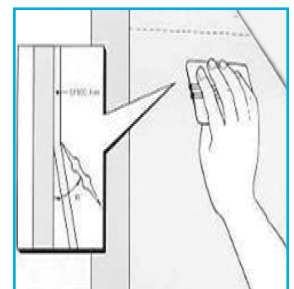

Figure 3.
7. Continue in this manner to apply the rest of the Product. **See Figure 3.**